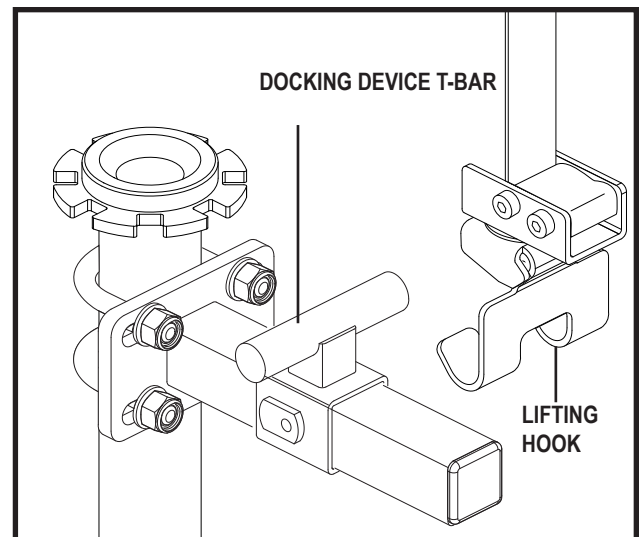

Figure 17. Lifting Hook Placement
4. Operate the lift via the hand control in the downward direction until the lifting hook reaches the T-bar. The lift strap should drop straight down to the T-bar. See figure 17.
5. Place the lifting hook onto the docking device T-bar. See figure 17.